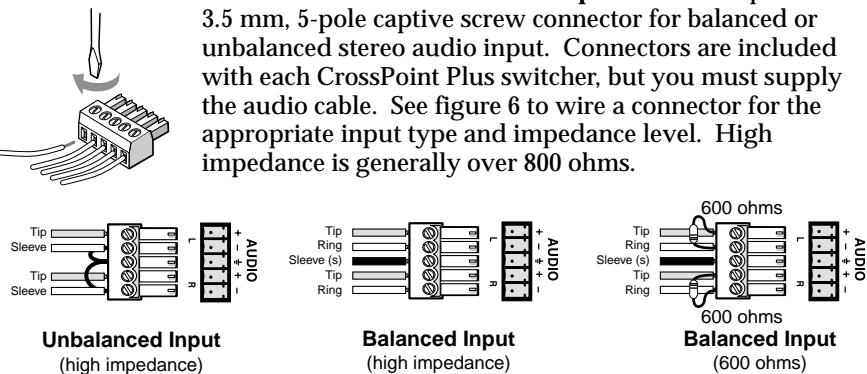
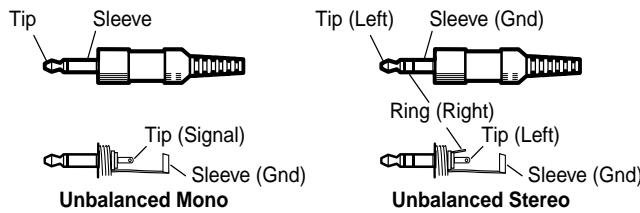

Figure 6 — Captive screw connector wiring for inputs
Figure 7 — Phono audio connectors
- (4) **Connections for balanced and unbalanced audio inputs** — Each input has a 3.5 mm, 5-pole captive screw connector for balanced or unbalanced stereo audio input. Connectors are included with each CrossPoint Plus switcher, but you must supply the audio cable. See figure 6 to wire a connector for the appropriate input type and impedance level. High impedance is generally over 800 ohms.
NOTE When making connections for the CrossPoint Plus Series Switcher from existing audio cables, see figure 7. A mono audio connector consists of the tip and sleeve. A stereo audio connector consists of the tip, ring and sleeve. The ring, tip, and sleeve wires are also shown on the captive screw audio connector diagrams, figure 6 and figure 8.